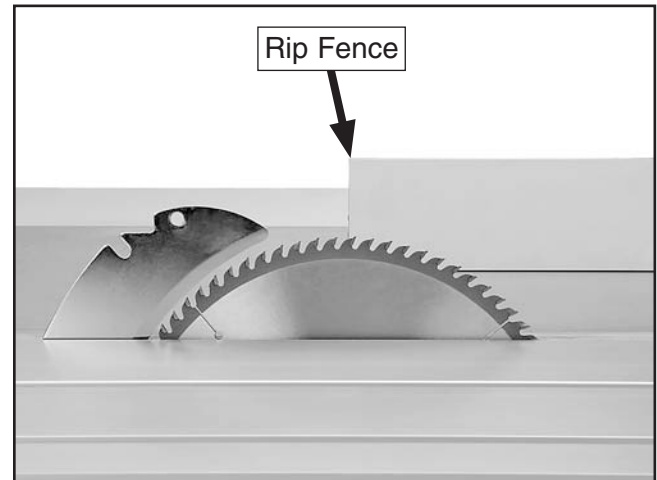

Figure 82. Rip fence properly positioned to the main saw blade (blade guard removed for clarity).
4. Loosen the rip fence clamp handle, position the leading edge of the fence so it is even with the center of the main saw blade, as shown in **Figure 82**, then re-tighten the clamp handle.